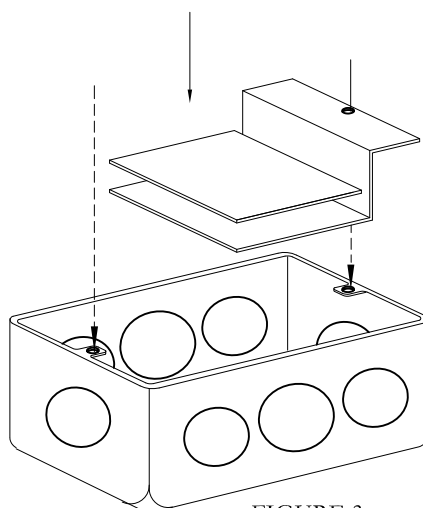

FIGURE 3
The DCP FRCME-M mounting option is shown in Fig 3. All the modules will follow Fig. 2A, 2B & 2C for wiring connections.
- 2) Secure the module to a U.L. listed electrical box (supplied by installer) as shown in Fig. 3